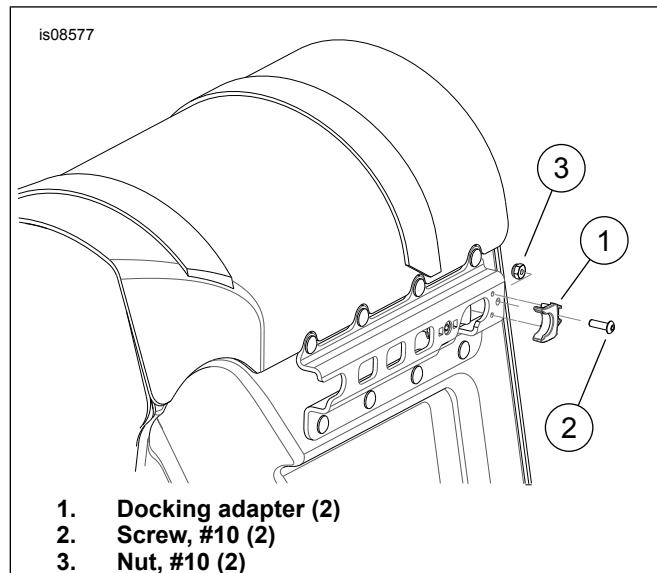
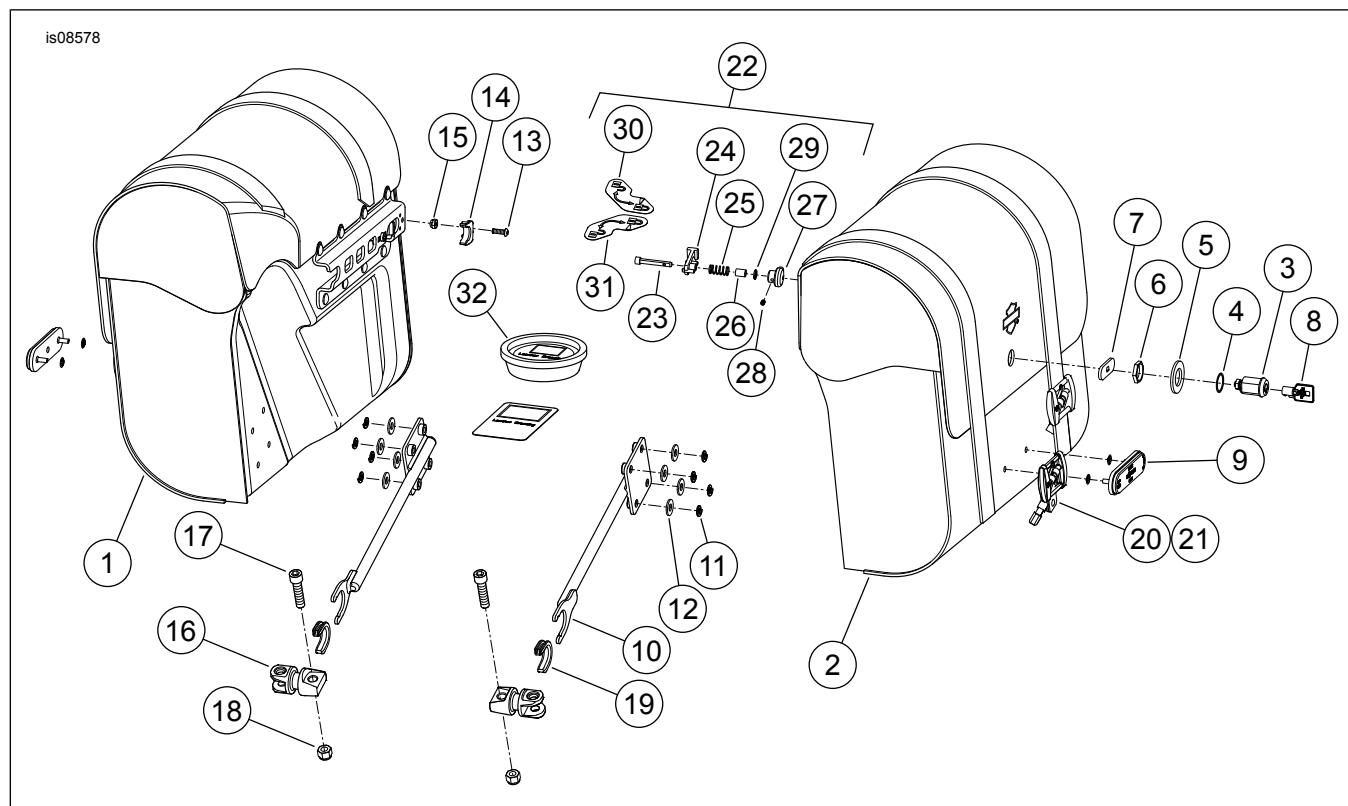

Figure 4. Install Rear Docking Adapters
Figure 7. Service Parts: XL Detachable Saddlebag Kits
3. See Figure 7 and Table 1. Obtain the docking clevises (16), screws (17) and nuts (18) from the kit.
1. See Figure 7 and Table 1. Obtain the saddlebag support arms (10) and docking clips (19).
2. See Figure 7 and Table 1. Obtain the right (1) and left (2) saddlebag assemblies, rear docking adapters (14), screws (13) and nuts (15).
- See Figure 4. Insert the posts of the rear docking adapter (1) into holes into the rear of the saddlebag bracket and hold in place.
- Install rear docking adapter (1) using screw (2) and nut (3). Tighten snugly.
- See Figure 7 and Table 1. Obtain the saddlebag support arms with attached u-clips (10 and 19), flat washers (12), lockwashers (11) and components from kit 90201424.
- Follow instructions from kit 90201424 to assembly arm (10) to the saddlebags.
1. See Figure 7 and Table 1. Obtain the lock items 3 through 7 from the kit.